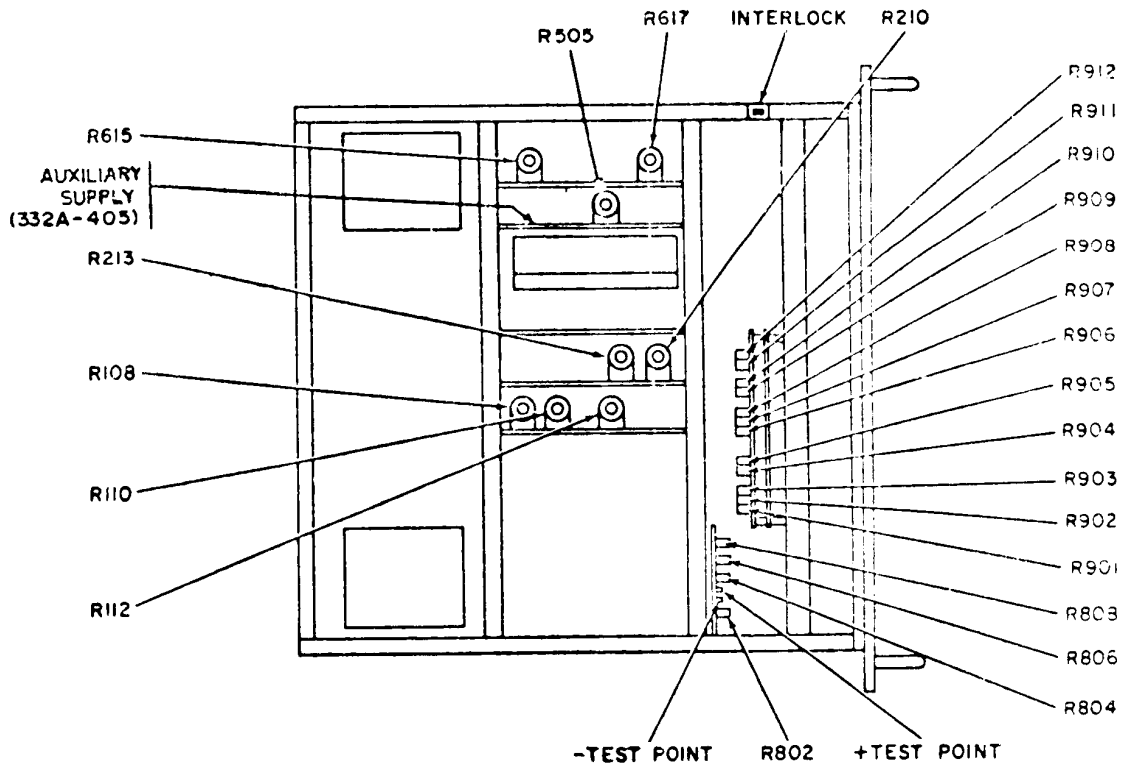

Figure 3. Model 332A top view - adjustment locations.
(1) Set ΔE control of dc transfer standard to 000 and adjust R112 (fig. 3) for a null indication on null detector (R).
(2) Set ΔE control of dc transfer standard to 000 and adjust R110 (fig. 3) for a null indication on null detector (R).
(3) Set ΔE control of dc transfer standard to 000 and adjust R108 (fig. 3) for a null indication on null detector (R).
(1) Adjust R907 (fig. 3) for same indication on null detector (R). (Report only if difference is greater than 30 microvolts.)
- (1) Set TI voltage dials to 10.000000.
- (2) Adjust R804 (fig. 3) for a null indication on null detector (R).
- (3) Perform (1) and (2) above, but do not report adjustments.
- (4) TI voltage dials to 100.000000.
- (5) Adjust R806 (fig. 3) for a null indication on null detector (R).
- (6) Perform (4) and (5) above, but do not report adjustment.
- (7) Set TI voltage dials to 1000.0000.
- (8) Adjust R808 (fig. 3) for a null indication on null detector (r).
(1) Set voltage dials to 10.000000.
(2) Adjust R210 (fig. 3) for null indication on null detector (R).
(3) Set VOLTAGE TRIP control fully clockwise.
(4) Set POWER switch to STANDBY/RESET and back to ON.
(5) Adjust R213 (fig. 3) fully counterclockwise.
(6) Set VOLTAGE TRIP control to midrange.
(7) Slowly adjust R213 clockwise until voltage trip circuit actuates (R).
(8) Set voltage dials to 6.000000.
(9) Adjust R617 (fig. 3) fully counterclockwise then clockwise until LIMIT ON lamp comes on. Panel meter should indicate 60 milliamperes (R).
(10) Turn CURRENT LIMIT control to 0 (zero).
(11) Adjust R615 (fig. 3) for indication of 1 milliampere on panel meter (R).